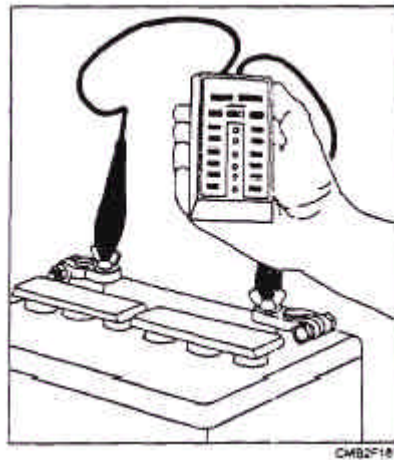

Figure 2-8.- Battery voltage test performed with a battery tester.
**BATTERY VOLTAGE TEST.-** The battery voltage test is done by measuring total battery voltage with an accurate voltmeter or a special battery tester (fig. 2-8). This test determines the general state of charge and battery condition quickly.